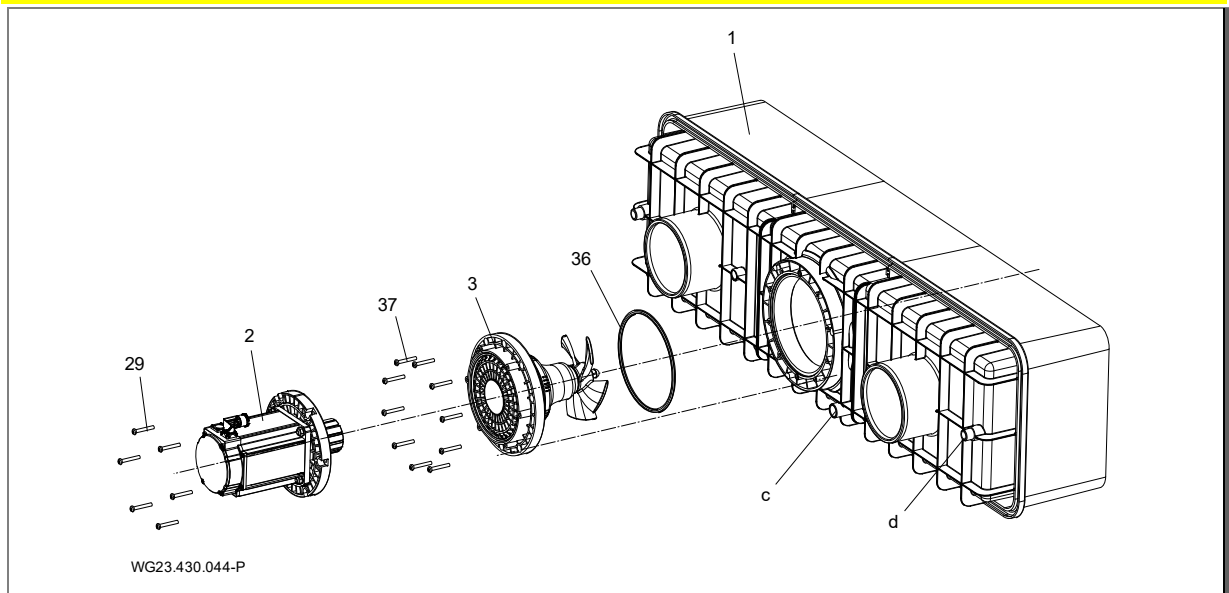

Fig. 16
1. Remove grease from the connection nozzle (d, (Fig. 16)) on the plastic housing (1) and the connection socket of the cable protection tube (12) with PVC-U/ABS cleaner.
The system must be installed in a shaft which borders the edge of the pool. The installation space must have perfect ventilation and sufficient ground drainage. There must be a possibility for fastening the frequency converter and the switch cabinet as well as the cable protection tube (above water level if possible). There must be a potential equalisation connection in the shaft. See "Fig. 16" on page 22. There must be sufficient room for installation and removal of the motor and drive unit.